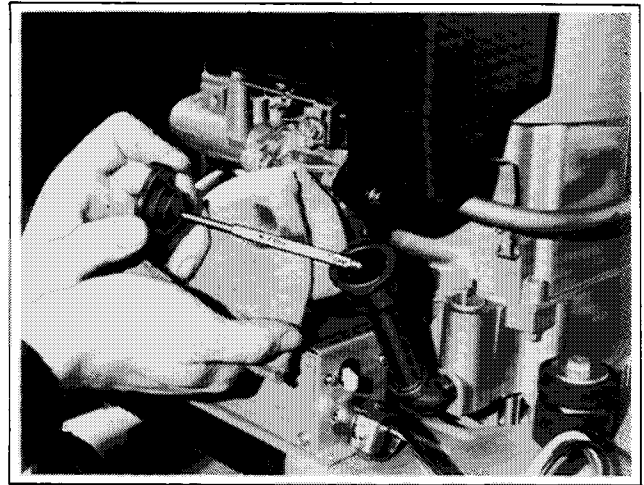

Figure 3-2. Oil Check
3. Unscrew oil cap and wipe dipstick clean. See Figure 3-2.